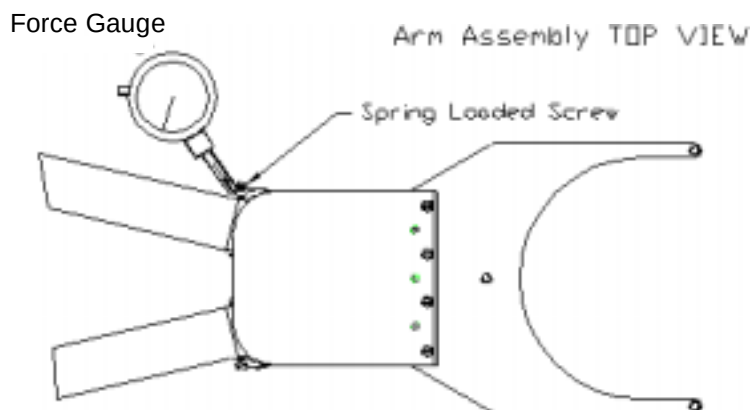

Figure 9-5: Arm Assembly Top View
2. Apply the plunger extension of the force gauge onto the tab located next to the spring loaded screw as shown in **Figure 9-5**. As soon as the tab moves slightly inward observe the force gauge reading.